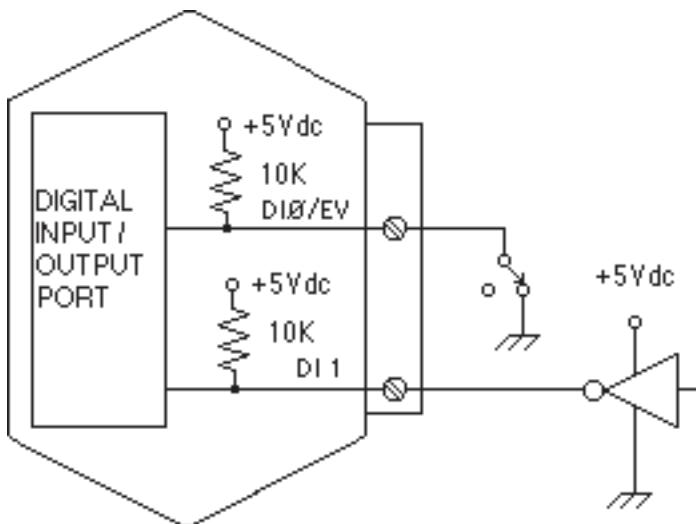

Figure 6.3 Digital Inputs
Digital inputs are used to sense switch closures and the state of digital signals. The inputs are protected to voltages up to  $\pm 30V$  and are normally pulled up to the logic "1" condition (see Figure 6.3). Digital inputs can be read by the Digital Input (DI) command. Voltage inputs less than 1 V are read back as '0'. Signals greater than 3.5 V are read as '1'. No other commands have any affect on the inputs.